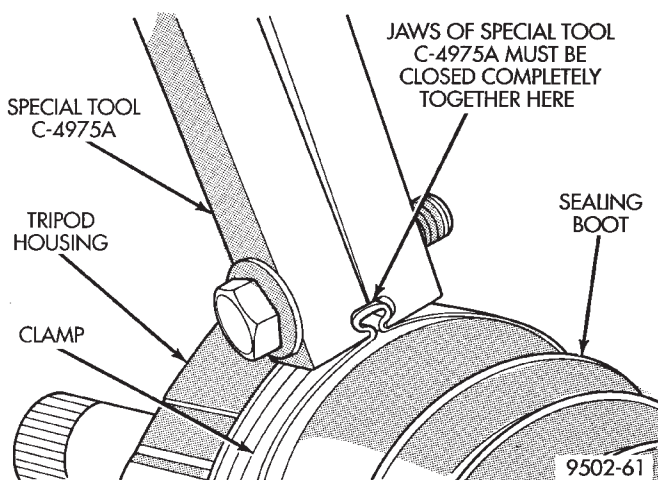

Fig. 39 Sealing Boot Retaining Clamp Installed
- Tighten nut on crimping tool C-4975-A until jaws on tool are closed completely together, face to face (Fig. 39).